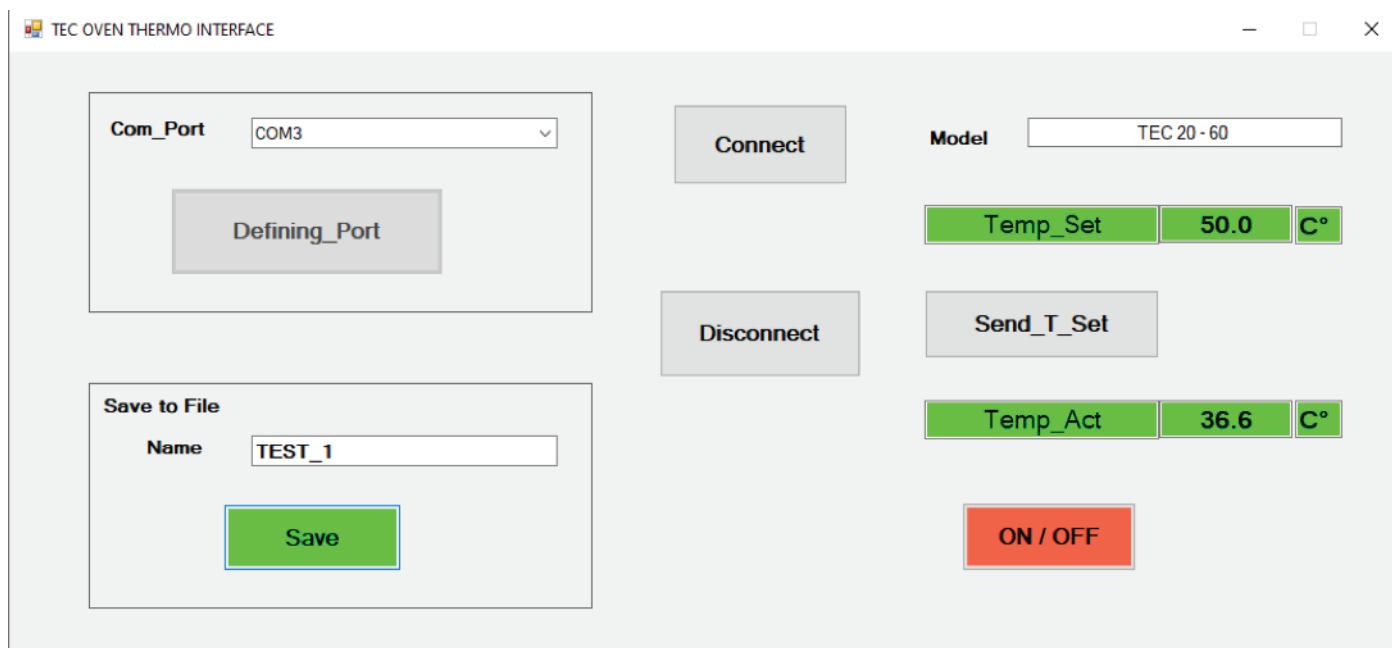

FIGURE 7. User Interface Software
- 'Save to File': to save current data of the temperature print in the widow 'Name' name of the file and click 'Save' button (figure 7). It will start temperature file save process with time sampling rate 1.5 sec per point as **Name.txt** file. This file can be use at EXCEL or other programs.